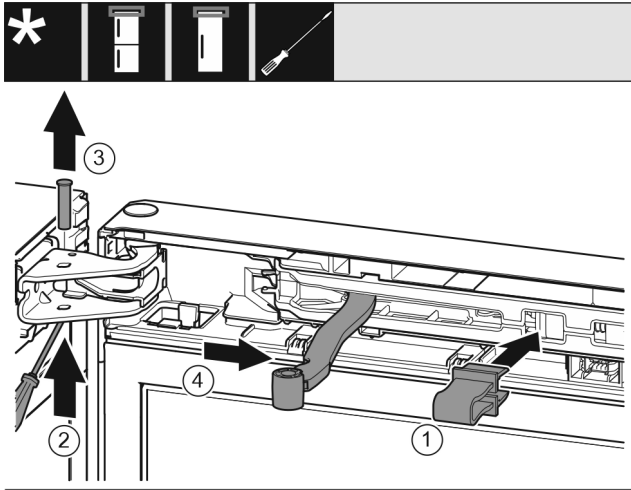

Fig. 11
- Engage the locking device in the opening. *Fig. 11 (1)*
- Push out the bolt with a screwdriver. *Fig. 11 (2)*
- Remove the bolt upwards. *Fig. 11 (3)*
- Turn the hinge in the direction of the door. *Fig. 11 (4)*